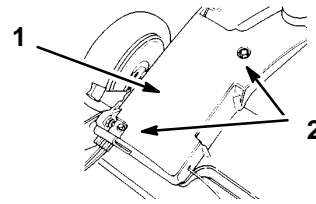

Figure 19
- With the engine turned off, remove the two bolts securing the belt cover (Fig. 19) and remove the cover.